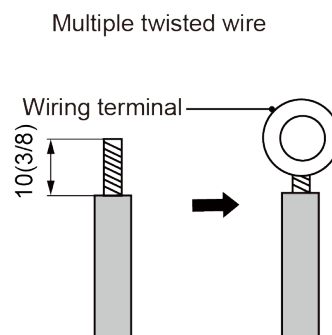

Fig.5.2
- (2) Connect stranded wire (as shown in Fig.5.2).